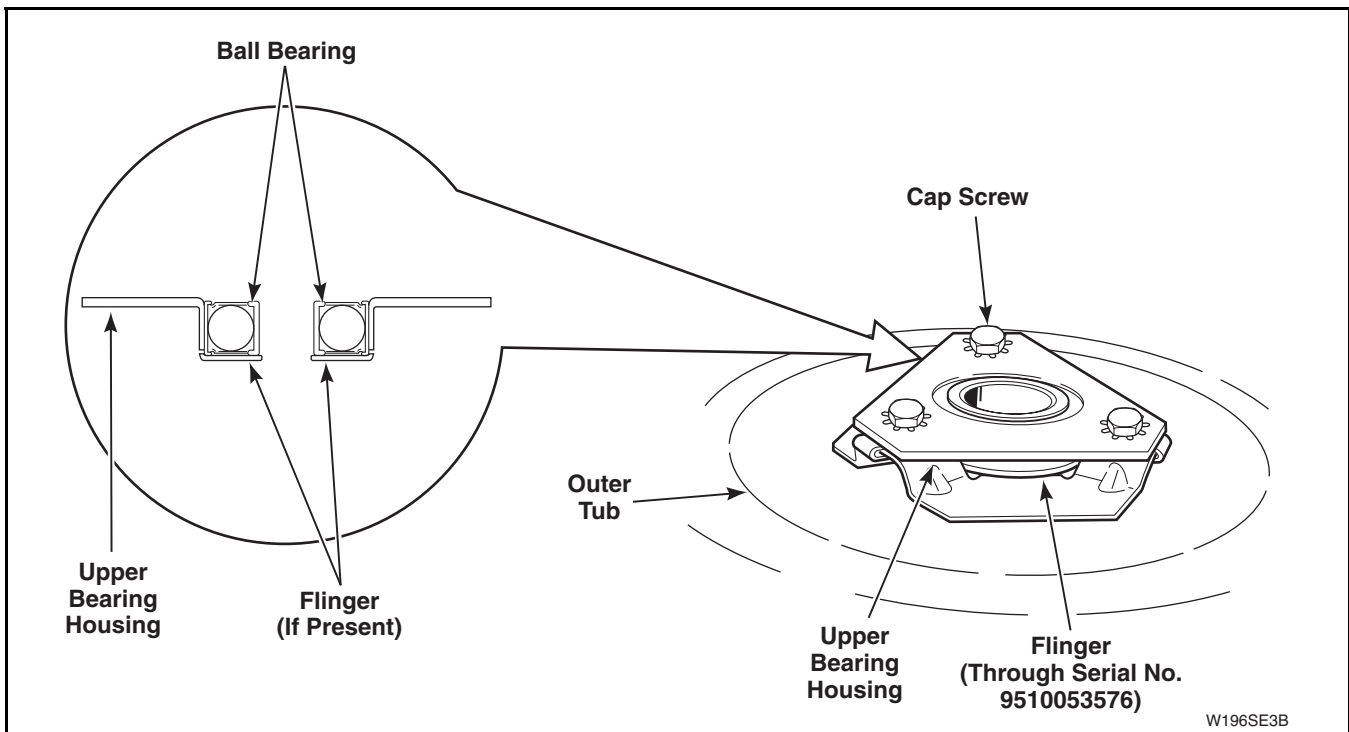

Figure 45
- Remove three screws holding upper bearing and housing to bottom of outer tub. Refer to *Figure 45*.
NOTE: Replace bearing and housing as an assembly, and make sure flinger (if present) is properly positioned between outer tub and bearing assembly. Refer to *Figure 45*.